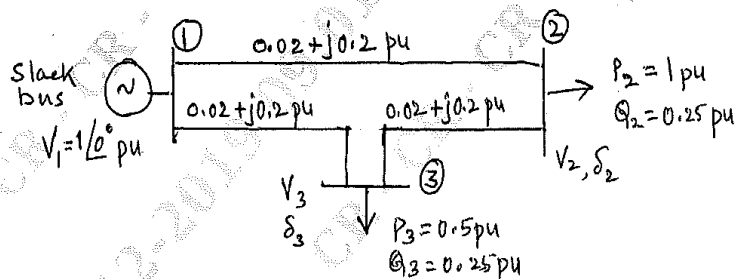

Fig. Q2(c)
- c. For the system shown in Fig.Q2(c) obtain solution of voltage and angles of bus 2 and 3 at the end of one iteration. Using Gauss-Seidel load flow method. Use flat start. Line data is in impedance form.